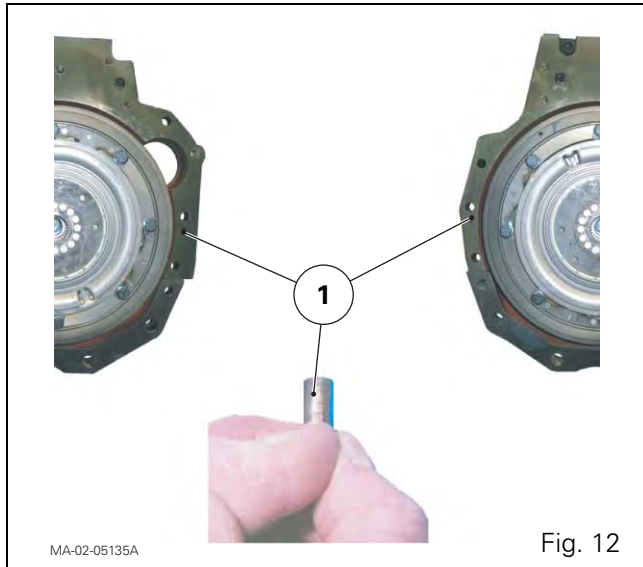

Fig. 12
NOTA: During assembly, these pins fit into the drill holes (1) on the engine adapter plate (Fig. 12).